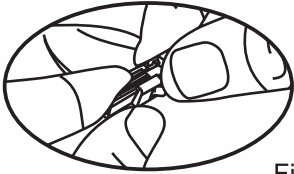

Fig. 33
(C) Pull out the battery gently and remove it completely by detaching the connecting pins, Fig. 33, 34.